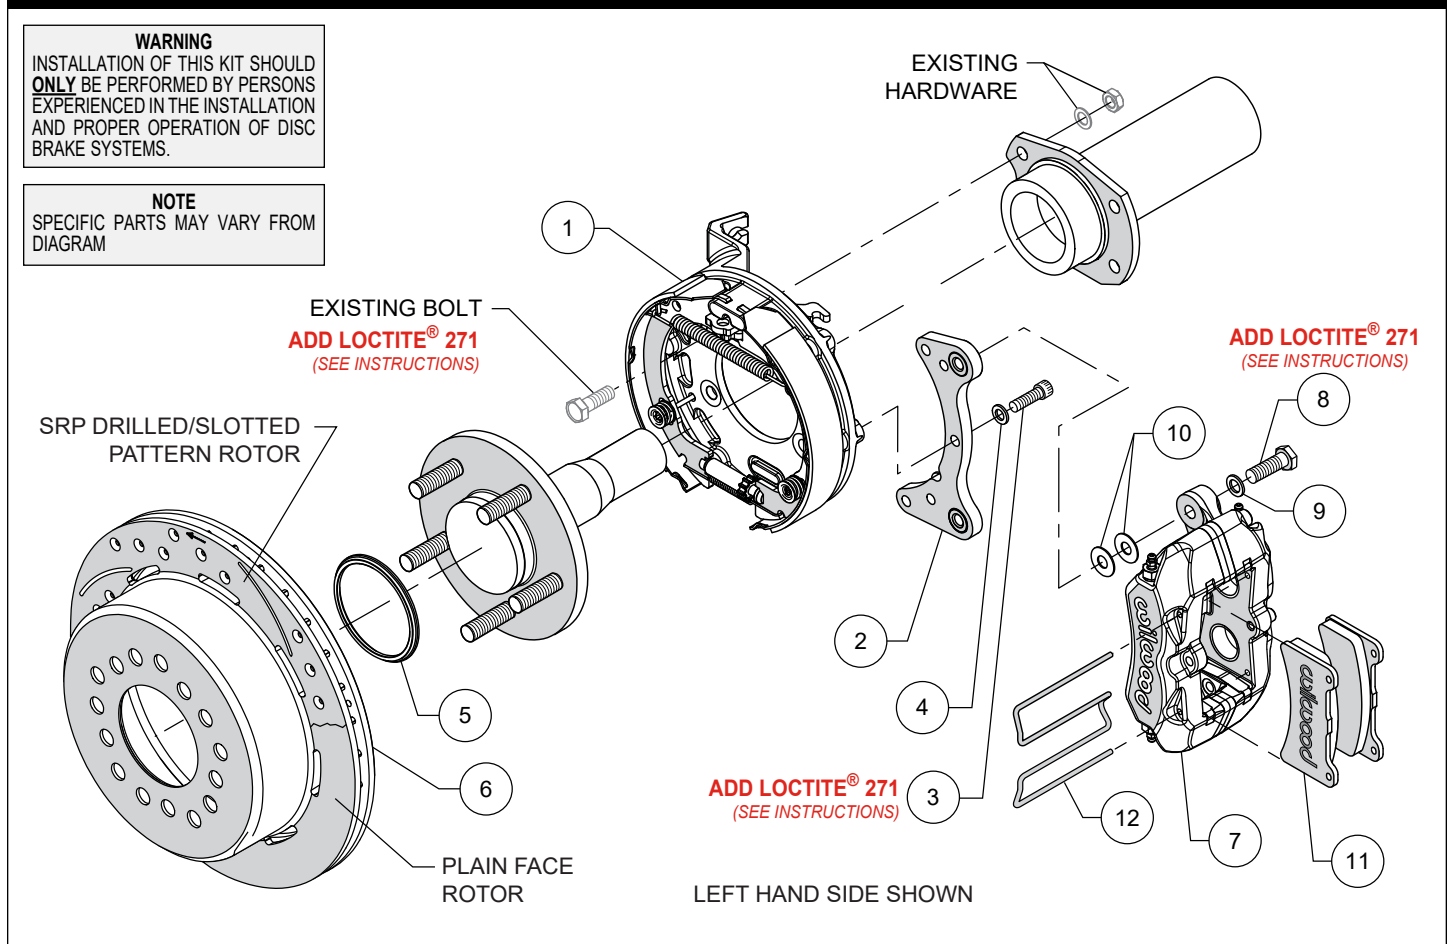
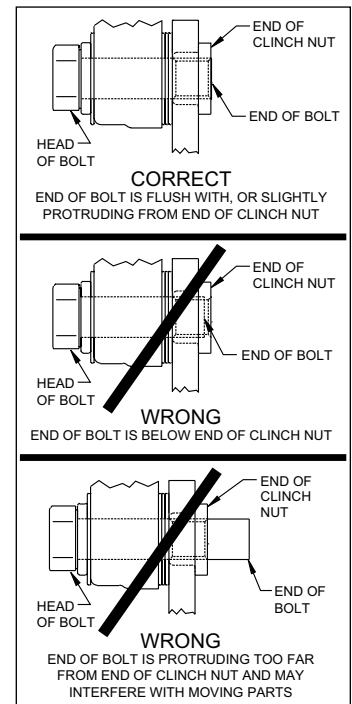

Figure 1. Typical Installation Configuration
Figure 4. Clinch Nut Engagement Diagram
NOTE: Numbers in parenthesis refer to the parts list and Figure 1 on the preceding pages.
CAUTION: All mounting bolts must fully engage clinch nuts. Be sure to check that all bolts are either flush or protruding through flanged side of clinch nut after shimming, Figure 4.
• Orient the parking brake assembly (1 and 2), as shown in Figure 1, and mount to the axle housing flange using the Original Equipment Manufacturer (OEM) bolts and nuts, Figure 1 and Photo 1. Ensure that the parking brake assembly backing plate fits flush against the axle housing flange. Apply red *Loctite*® 271 to the OEM bolt threads and torque to OEM specifications.
• Install the caliper mounting bracket (2) to the parking brake assembly (1) using bolts (3) and washers (4) as shown in Figure 1 and Photo 2. Apply red *Loctite*® 271 to the bolt threads and torque to 25 ft-lbs.
- Align the correct hole pattern in the rotor/hat with the stud pattern on the axle flange and slide into place, Figure 1. **NOTE:** The rotor/hat must fit flush against the axle flange or excessive rotor run out may result. Install three lug nuts (finger tight) to keep the rotor/hat assembly in place while continuing with the installation.
- NOTE:** Please reference the caution statement at the beginning of the assembly instructions. Mount the caliper (7) onto the caliper mounting bracket (2) using bolts (8) and washers (9), as shown in Figure 1. Initially place two .035" thick shims (10) on each bolt between the caliper and the bracket, Photo 4. Temporarily tighten the mounting bolts and view the rotor (6) through the top opening of the caliper. The rotor should be centered in the caliper, Photo 5. If not, adjust by adding or subtracting shims (10) between the bracket and the caliper. Always use the same amount of shims on each of the two mounting bolts. **NOTE:** The end of each bolt must be flush with or slightly protruding from the head of the clinch nut, as shown in Figure 4. If necessary place spare shims between washer (9) and caliper mounting ear to achieve the proper clinch nut engagement. Once the caliper alignment and clinch nut engagement are correct, remove the bolts one at a time, apply red *Loctite*® 271 to bolt threads, and torque to 40 ft-lb.